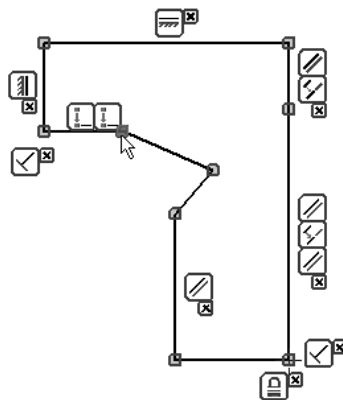

Figure 3-6 The constraint box showing the constraints applied to the sketch
You can view all constraints that are applied to the entities of a sketch by choosing the **Show Constraints** button from the **Constrain** panel of the **Sketch** tab. When you invoke this tool and move the cursor close to any sketched entity, it will be highlighted and boxes will be displayed after a pause. These boxes show the symbols of all constraints that are applied to the entity. The symbols of the constraints will be highlighted in yellow box. Select the entity to retain the constraint box; the constraint box will be displayed with the constraints in a white background. Figure 3-6 shows the constraint boxes along with the constraints applied to the lines. You can move this box by selecting it and dragging. To close a box, choose the cross (X) on the extreme right of the box. In the case of **Coincident Constraint**, the constraint applied on a point is highlighted in yellow, instead of a box. To view the symbols, move the cursor over the highlighted yellow point; the yellow point will turn red and the symbols will be displayed in boxes, refer to Figure 3-6.